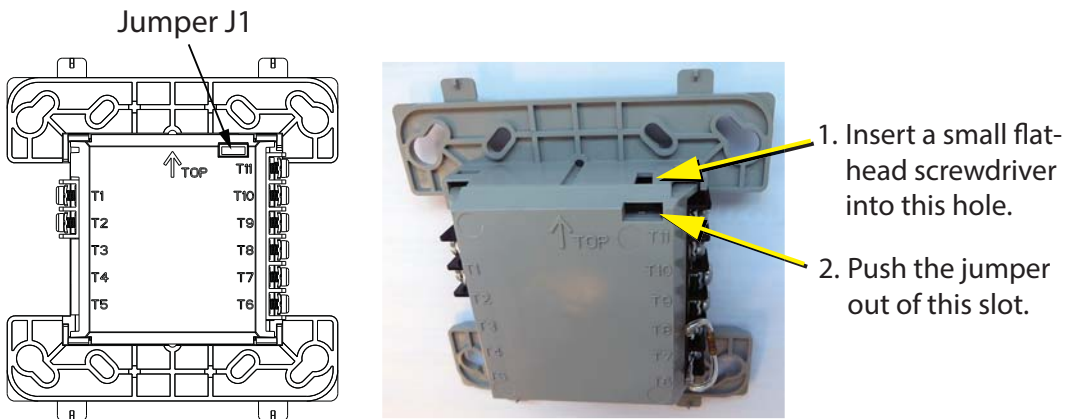

Figure 1 Remove and discard jumper on MIX-M500SAP(A) and MRI-M500SAP(A)
1.1 Remove the Jumper on MIX-M500SAP(A) or MRI-M500SAP(A)
If you are using the Advanced Protocol MIX-M500SAP(A) or MRI-M500SAP(A) for speaker applications with the Mircom QX series of amplifiers, follow these instructions to remove jumper J1. The jumper location is shown in Figure 1.
2. Use the screwdriver to push the jumper out through the slot shown in Figure 1. You do not need to open the cover.